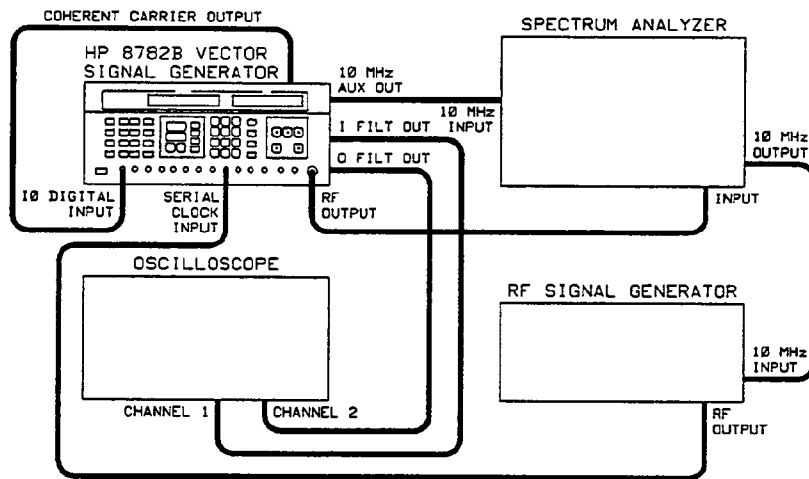

Figure 5-19. Serial Clock and Data Rates Test Setup
1. Connect the equipment as shown in Figure 5-19.